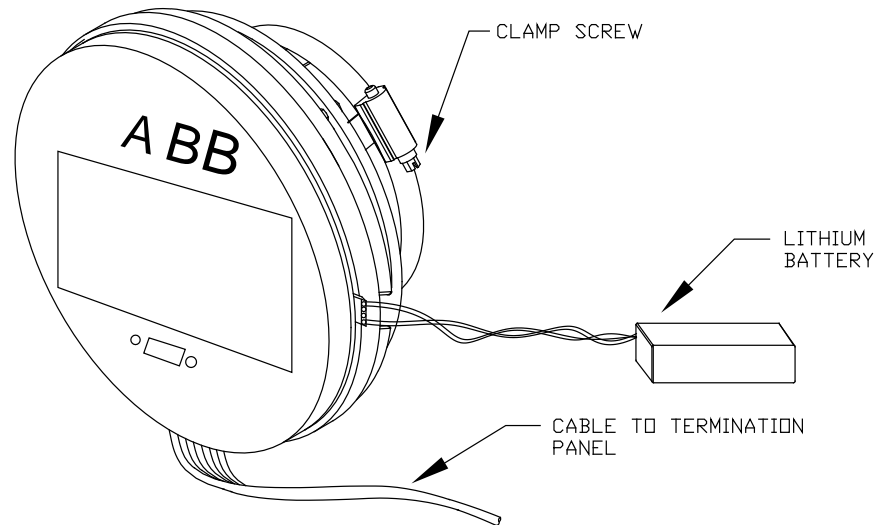

Figure 5-4 Digital Controller Complete Assembly
- 4) Unplug the lithium battery connector from the J5 receptacle on the digital controller board (see Figure 5-4).